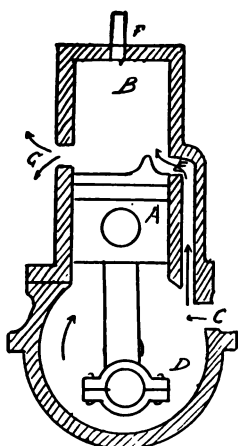
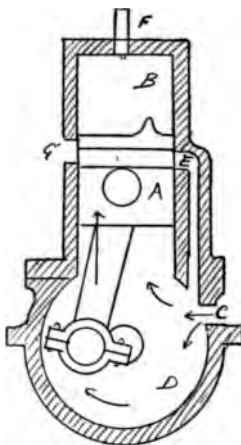
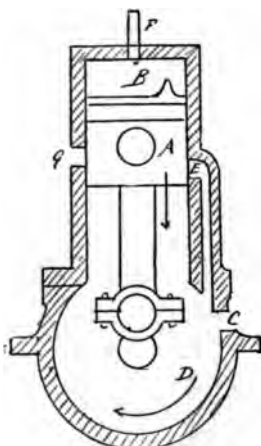

Fig. 1
Fig. 2
Fig. 4
It is a very simple, easily understood form, with few parts, and by referring to Figs. 1, 2, 3, 4, you can readily understand just how the motor operates.
Fig. 1 represents the motor in section, with the piston (A) at the bottom or end of its stroke. As the crank revolves and the piston (A) travels upward in the cylinder (B) a charge of gasolene and air is sucked in from the carburetor through the opening (C) and fills the crank-case (D), from which it cannot escape, as the only opening is the port (E) which is covered by the piston, as shown in Fig. 2.
upward stroke, closing the port (E) and compressing the charge of gas in the upper part of the cylinder until in the position shown in Fig. 4. At this point an electric spark is produced at the spark-plug (F), which ignites the charge and drives the piston down. As the piston passes the exhaust-port (G) the burning and expanded gas rushes out through the opening to the air, and at the same time, or a moment later, another charge of fresh gas rushes up from the base to fill the empty cylinder, as indicated by the arrows in Fig. 1.